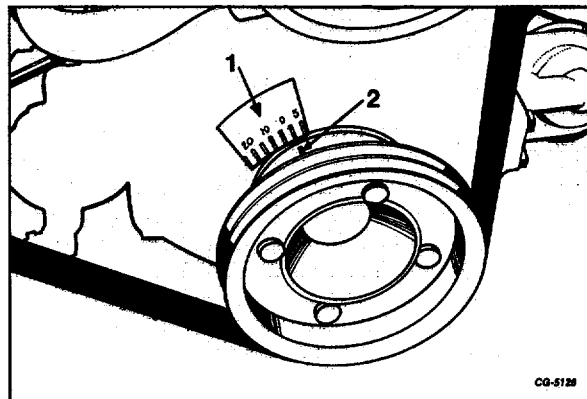

Figure 42. Timing Marks (V-304, V-345 V-392 Engines Shown)
8. Operate engine at idle speed and observe timing marks with timing light. (Figure 42). Rotate distributor housing as needed to align timing mark on crankshaft pulley with